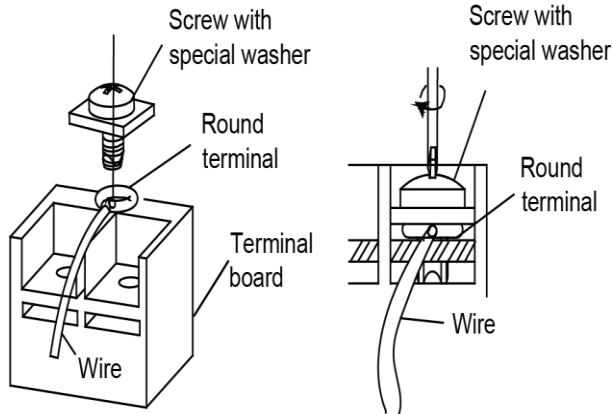

Figure 3-2-7
- 4) Position the round terminal wire, and replace and tighten the terminal screw with a screwdriver. (Figure 3-2-7)